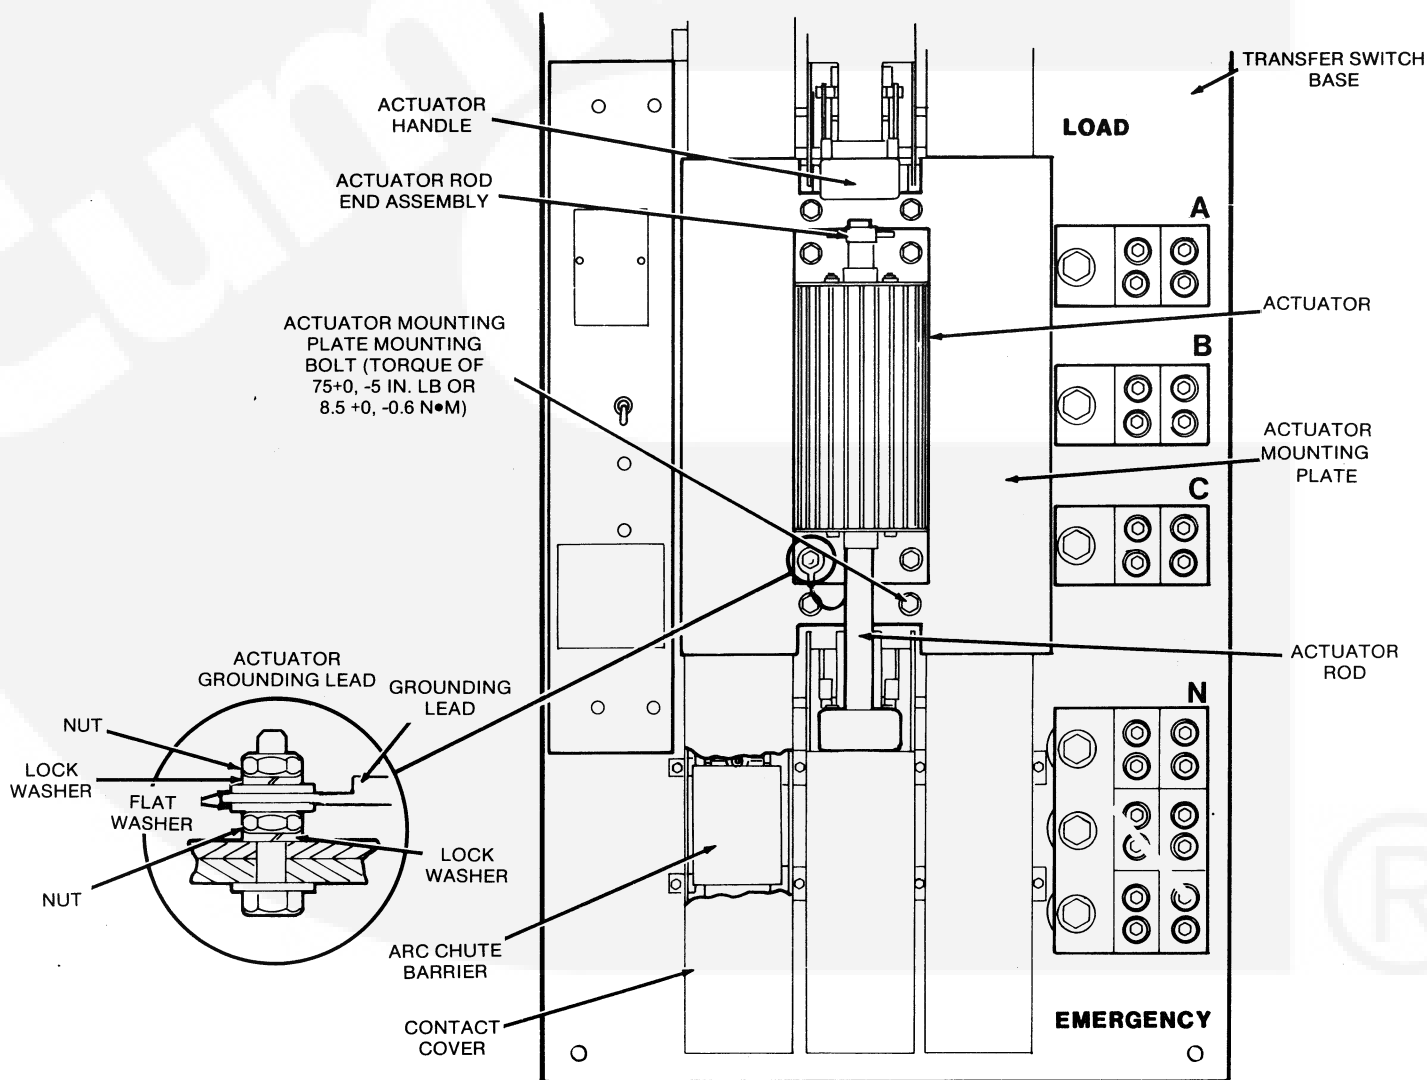

FIGURE 36. TYPICAL 400 THROUGH 1000 AMPERE OT TRANSFER SWITCH
5. Remove the red, transparent contact covers by pressing outward on each cover end until cover clears holding tabs, then lifting up and pulling away from transfer switch. See Figure 36.
8. Remove arc chute barrier by sliding out from contacts (Figure 36).
9. Remove the block assembly with contact strap. (Note if block assembly has spacers on one side held in place by block mounting bolts.) See Figure 36.